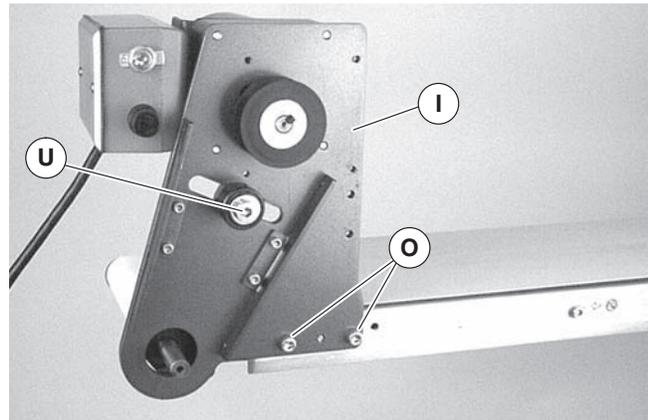
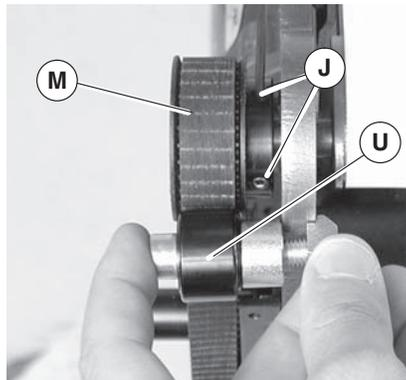

Figure 9
Figure 11
- Attach mount assembly (Figure 9, item I) with two screws (O). Tighten screws to 80 in-lb (9 Nm).
6. Wrap timing belt (M) around driven pulley (J) and drive pulley (R). Install driven pulley (J) onto conveyor shaft.
7. Remove cam bearing and spacer (Figure 9, item U). Place the cam bearing and spacer (Figure 11, item U) next to the driven pulley (M). Ensure the flanges of the driven pulley are aligned with the cam bearing. Tighten set screws on driven pulley (J). This will allow for proper belt alignment while conveyor is in use. Install cam bearing and spacer (U).